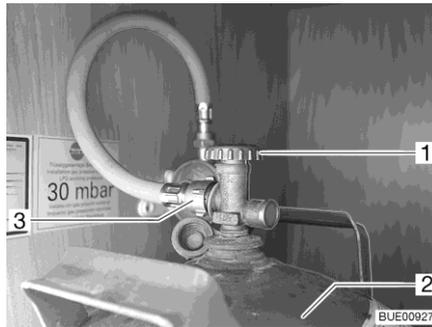

Fig. 198 Gas bottle compartment
- Close the regulator tap (Fig. 198,1) on the gas bottle (Fig. 198,2). Pay attention to the direction of the arrow.
- Unscrew the gas tube (Fig. 198,3) from the gas bottle.